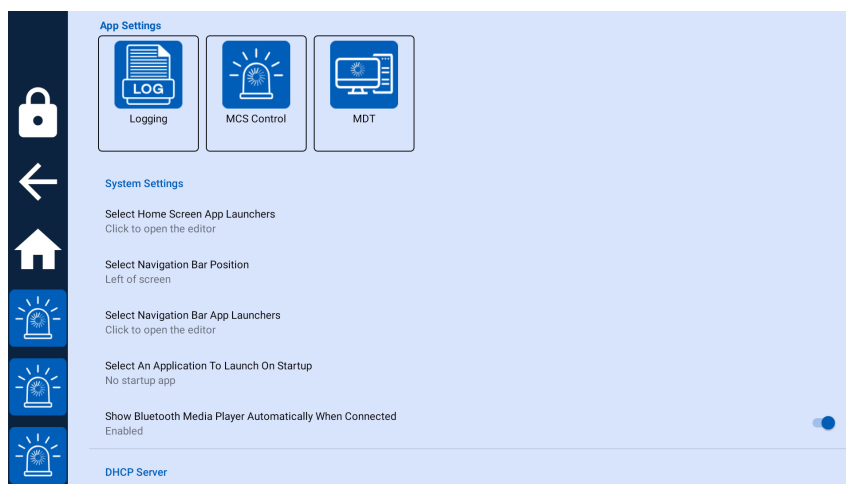

Figure 11: Application settings
- Enable "Show Bluetooth Media Player Automatically When Connected" as seen in Figure 11 which will launch the media player when a Bluetooth media device is connected.